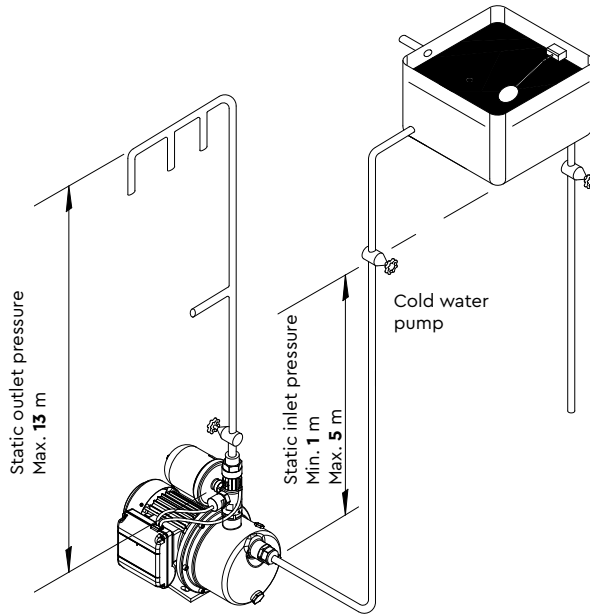

Fig. 5
- 2.17 **Static inlet pressure:** Before deciding where to locate the unit check to ensure the static inlet head between pump and the bottom of the cold water tank (Fig. 5) is at least 1 metre and does not exceed the max inlet head of 5 metres.
- 2.21 **Static outlet pressure:** The static outlet head (Fig. 5) must also be within the maximum requirement of 13 metres.